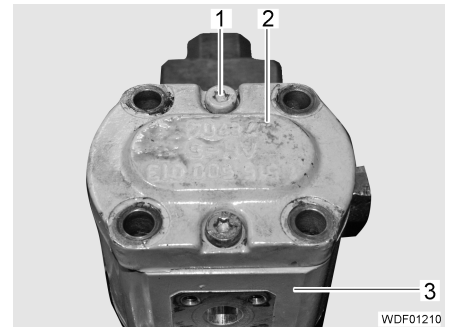

Fig. 156 Cover attachment
- Unscrew the 2 screws (Fig. 156,1).
- Remove the cover (Fig. 156,2) and place it aside.